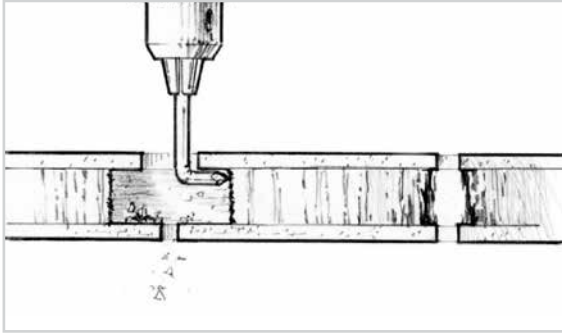

Figure 7-2 Remove about 1/2" (12 mm) of core material around the hole with a bent nail or an Allen wrench chucked into a drill motor.
2. Clean out the fastener holes and remove a portion of the core around the hole. Re-drill holes with an oversized bit or enlarge holes with a round file to increase bonding area. Drill through the outer skin and core only. Remove about ½" (12 mm) of core material around the hole with a bent nail or an Allen wrench chucked into a drill motor (Figure 7-2). The spinning nail or Allen wrench will pulverize the core material without damaging the skins, provided you are careful.